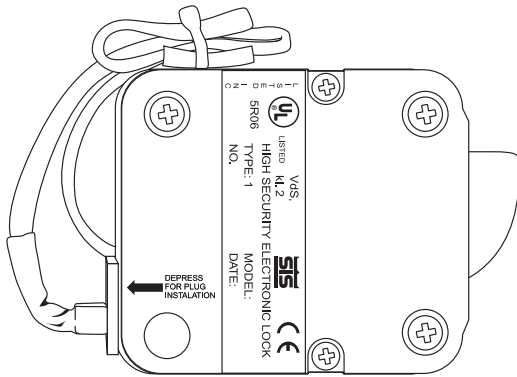

Figure 6
- ④ Secure entry cable with tywrap, making sure to keep out of the way of all moving parts, see Figure 6.